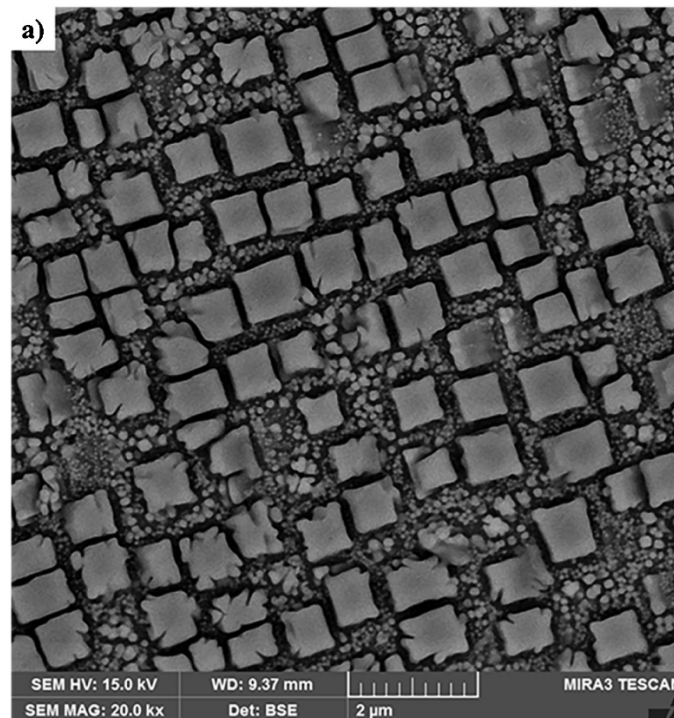

Figure 4. SEM – micrograph of IN-738LC after heat treatment
- e) Figure 4 shows a scanning electron micrograph of heat-treated IN-738LC with the typical γ - γ' microstructure.
- Explain the terms "primary γ' " and "secondary γ' " precipitates in the context of IN-738LC. Discuss their roles in strengthening the alloy and indicate where they can be observed in the micrograph shown in Figure 4. (3P)